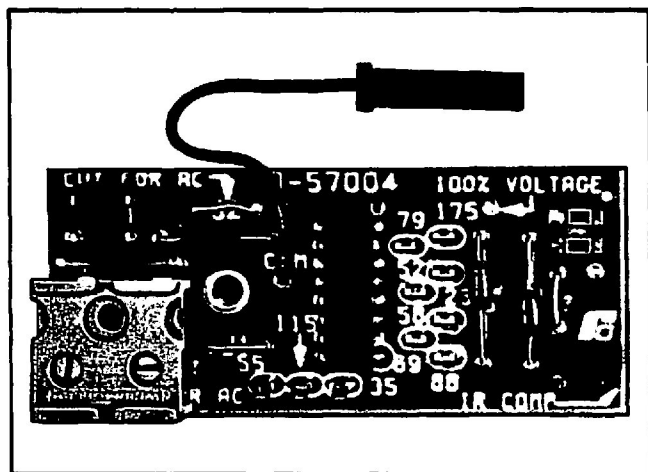

Figure 5.8 — Tachometer Feedback Kit
**5.5 Tachometer Feedback** — The FlexPak Plus is supplied as standard as a d-c armature voltage feedback controller. With the addition of the optional Tachometer Feedback Kit, it can operate as a speed-regulated unit, thereby improving regulation to as little as 0.5% with specified tachometers. (Refer to Figure 5.8.) Either an a-c or d-c tachometer may be used. The maximum allowable input voltage is 175 volts.